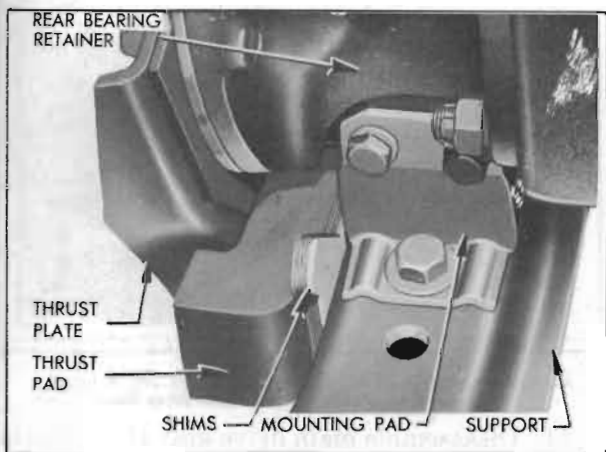

Figure 4-28—Transmission Mounting Pad, Thrust Pad and Shims
17. Install shims between thrust plate and thrust pad (fig. 4-28) and tighten thrust pad stud nuts. Connect rear axle assembly (par. 5-7).
6. With engine and transmission resting freely and normally on mountings, install sufficient shims between the thrust pad and transmission support to fill the existing space. Insert shims from above with tabs on right side, then install the bolt plate and three nuts which attach thrust pad to support. See figure 4-28.